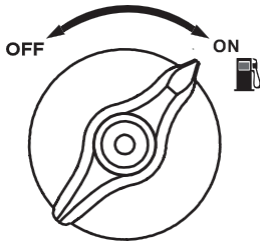

Figure 7: Turn Fuel Switch to ON Position
5. Turn the Fuel Control Switch to the **ON (RUN)** position (see Figure 7).
4. Confirm that the Fuel Control Switch is in the **ON** position (see Figure 7).